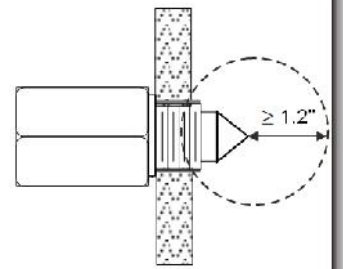

Fig.5
- The tip of the optical sensor must remain at least 1.2" from any reflective surface or physical interferences, like the tank wall (Fig.5)